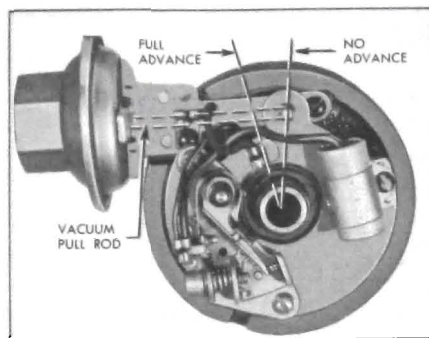

Figure 10-39—Vacuum Advance Mechanism
3. Vacuum Advance is governed by manifold vacuum. The contact point set is mounted on a breaker plate which is located below the centrifugal advance mechanism and uses the outer diameter of the upper shaft bushing for its bearing surface. The movable breaker plate is held in position on the upper shaft bushing by a retainer. The vacuum unit is mounted on the distributor base and under the movable breaker plate so that the breaker plate can be rotated around the distributor cam by a link from the vacuum unit. See Figure 10-39.